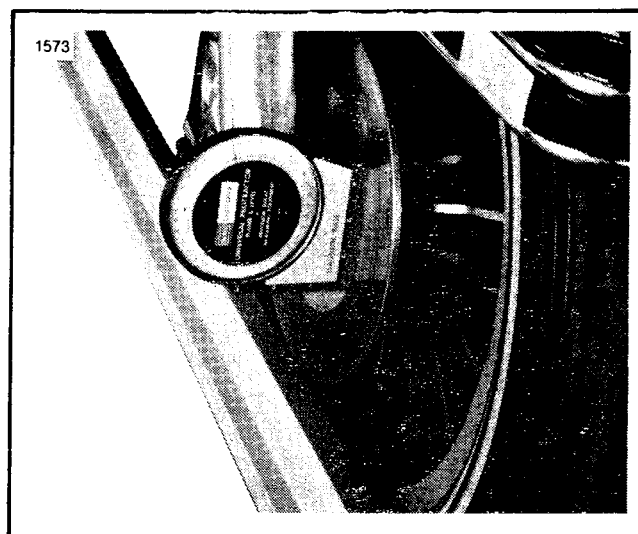
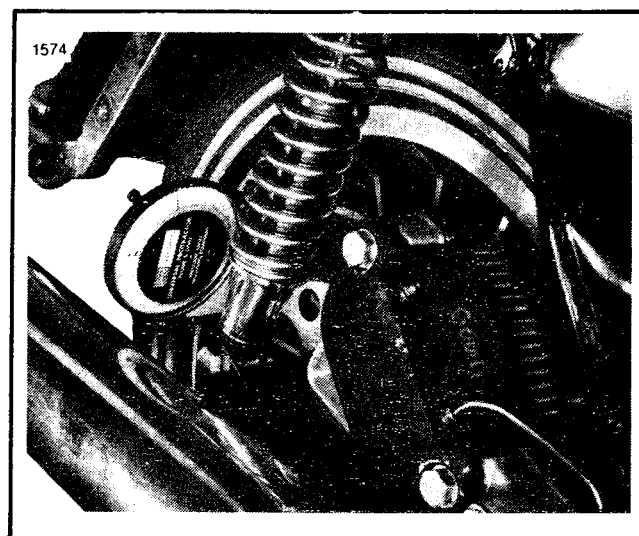

Figure 4. Front Wheel Vertical Alignment
Figure 5. Rear Wheel Vertical Alignment
- Use C-clamps to hold the straightedges to the tires. This will maintain the horizontal wheel alignment while you check the vertical adjustment. Install the Sears Universal Protractor on the right front brake disc, using its magnetic base. Note the degree of lean angle registered on the protractor (see Figure 4). Then install the protractor facing the same direction on the rear brake disc and note the degree of lean angle (see Figure 5). This measurement should be the same to within $\pm 1/2^\circ$. If there is a larger degree of difference between the two readings, adjust the top stabilizer (located under the gas tank) to bring the wheels into alignment. Repeat Step 5 to check wheel alignment.